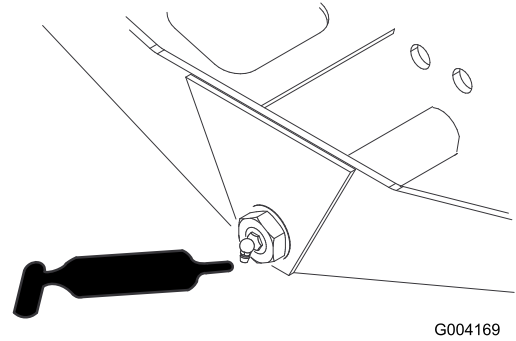

Figure 52
- Axle-steering pivot (1) (Figure 52)